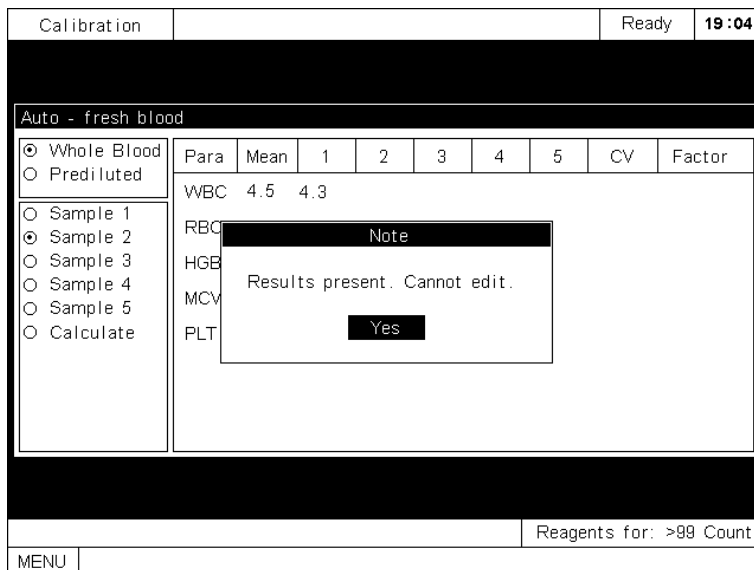

Figure5-25 Reject editing dialog box
- If calibration data (calibration results, CV or new factors) exist, when you press [F1], a dialog box will pop up to warn you, as Figure5-25 shows. Press [ENTER] to return to the **Auto-fresh blood** screen.